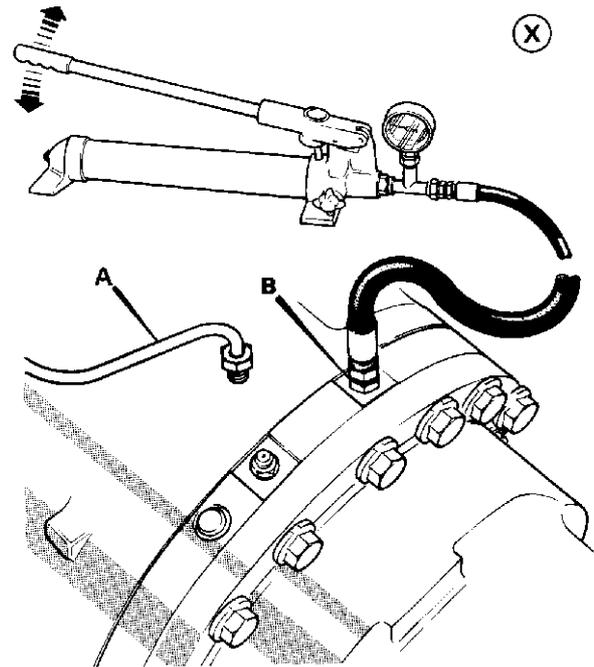

Fig 22.
- a Install a hand pump fitted with a 0 - 40 bar (0 - 600 lbf/in²) pressure gauge to port **B**, as shown at **X**, ⇒ Fig 22. \(□ G-43\).